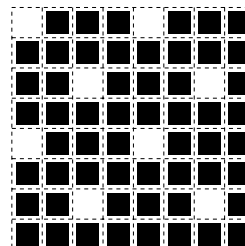

Figure 2 Halftone 2 Pattern
- 2: Halftone 2 pattern (The Figure 2 is repeated.)